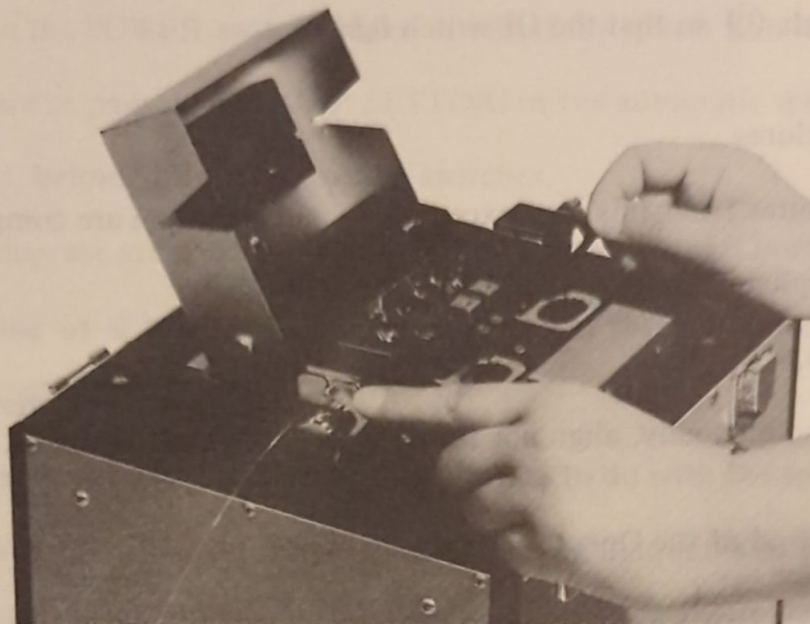

Fig. 25 Rotation of Proof Tester Dials
- (3) Slowly rotate the right and left proof tester dials ⑮ toward you. (Refer to Fig. 25)